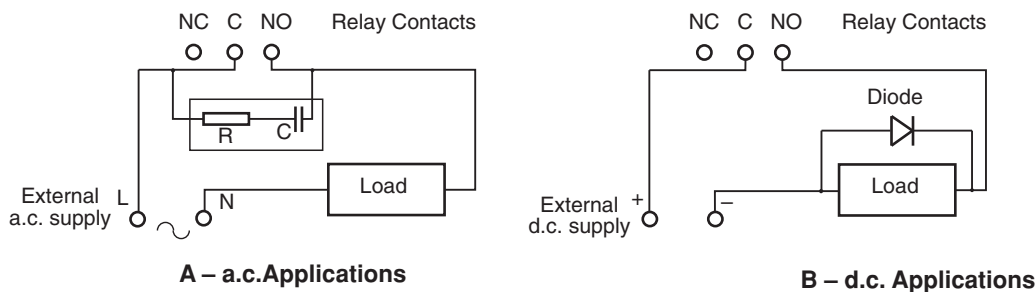

Fig. 3.3 Relay Contact Protection
3.2.1 Relay Contact Protection and Interference Suppression – Fig. 3.3
If the relays are used to switch loads on and off, the relay contacts can become eroded due to arcing. Arcing also generates radio frequency interference (RFI) which can result in instrument malfunction and incorrect readings. To minimize the effects of RFI, arc suppression components are required; resistor/capacitor networks for a.c. applications or diodes for d.c. applications. These components can be connected either across the load or directly across the relay contacts. On 4600 Series instruments the RFI components must be fitted to the relay terminal block along with the supply and load wires – see Fig. 3.3.